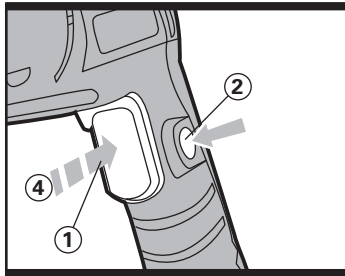

Fig 2
4. VARIABLE SPEED SWITCH (See Fig 2)
This tool has a variable speed switch (4) that delivers higher speeds with increased trigger pressure - speed is controlled by the amount the switch trigger is depressed (See Fig 2). Higher speed will produce a higher torque while a lower speed will produce a lower torque.